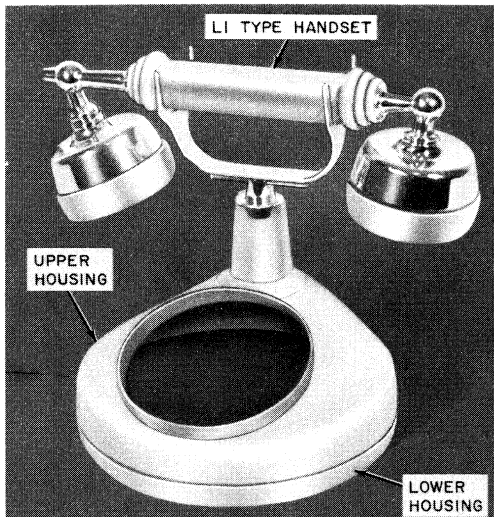

Fig. 2—Customer-Owned Components 940A or 940B Telephone Set
2.01 The 940A, 940B, and 940C rotary dial equipped telephone sets are new DESIGN LINE telephone sets being made available to the customer. The customer buys the housing, handset, and decorative features from the telephone company and the telephone company retains ownership of the transmission and signaling components which are mounted on a removable base and incorporated in the handset (Fig. 2, 3, and 4).